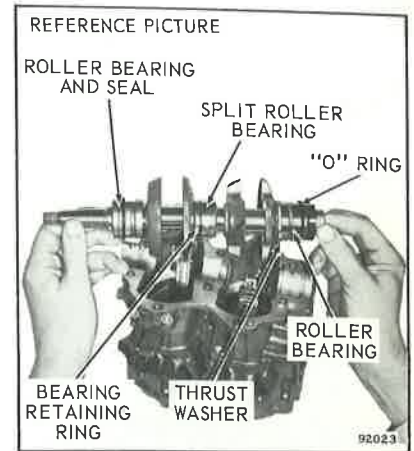

Figure 5-10. Removing Crankshaft and Bearings
h. Lift crankshaft from cylinder block. Remove crankshaft main bearings for cleaning and inspection. Slide center bearing retaining ring aside to separate center bearing halves. See Figure 5-10.